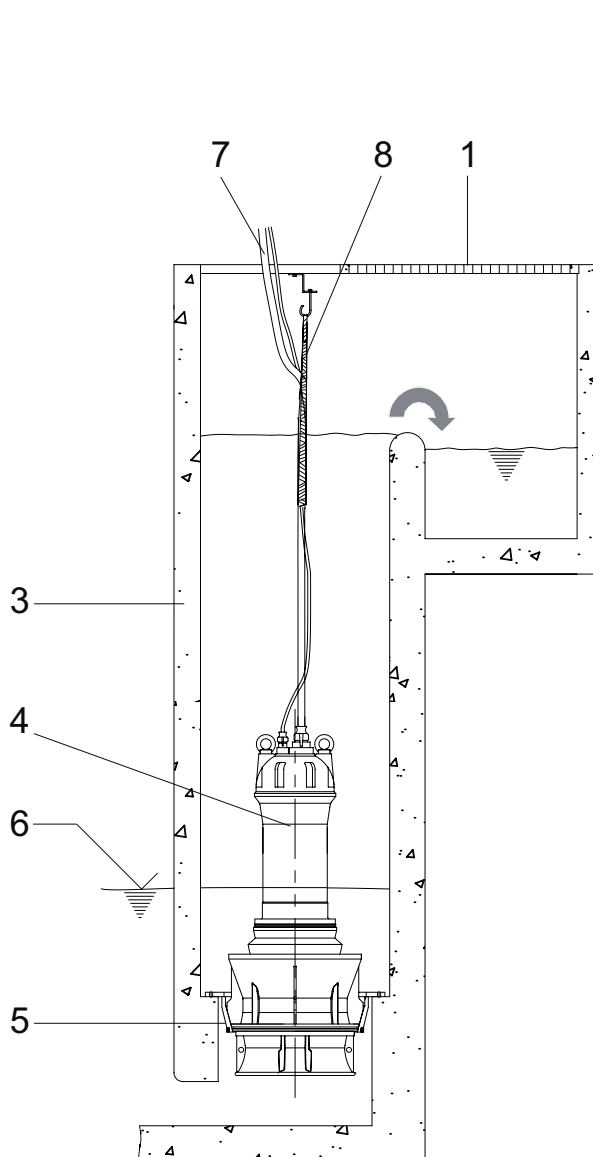

Figure 26 VUP/AFL in a concrete sump
2. **Installation in a concrete sump in accordance with *Figure 26***